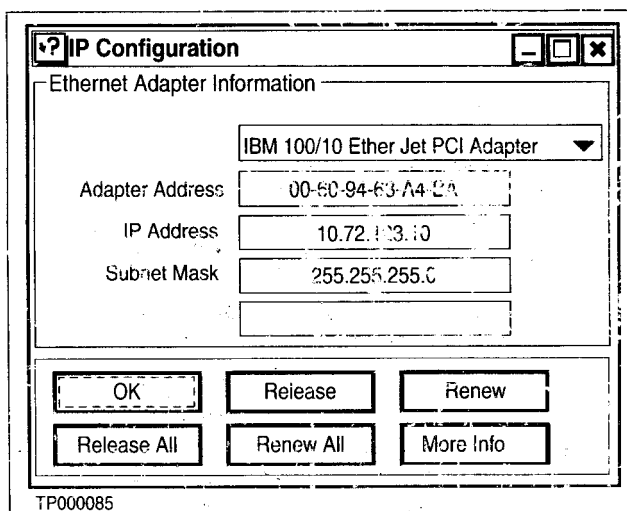

Figure 4
- C. Click **"ENTER"**. The "IP Configuration" window will display the IP Address and Subnet Mask (see Figure 4).